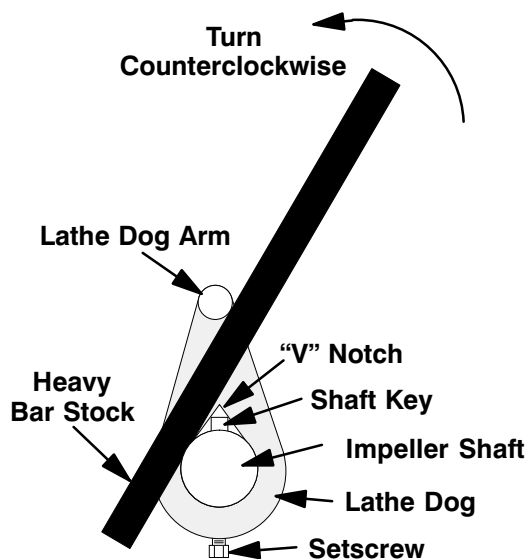

Figure 9. Loosening Impeller
With the impeller rotation still blocked, see Figure 9 and use a long piece of heavy bar stock to pry against the arm of the lathe dog in a counterclockwise direction (when facing the drive end of the shaft). **Use caution** not to damage the shaft or keyway. When the impeller breaks loose, remove the lathe dog, key and wood block.
When properly installed to the dimension shown in Figure 9, the key (30, Figure 3) **will not** extend fully through the bushing. This is an acceptable fit for this application.